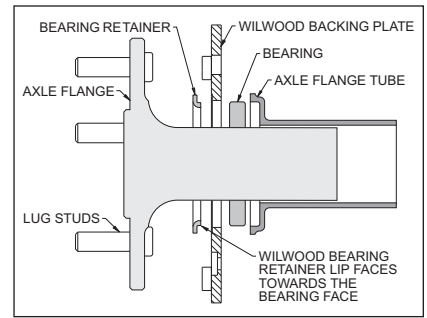

Figure 4. Retainer / Axle Diagram
Completely disassemble the stock brake system down to the bare axle utilizing a qualified machine shop to press off axle bearing and OEM retainer. Then have the machine shop install new retainer (2), supplied with bracket kit with the lip facing towards the bearing, reference Figure 4 (we suggest you install a new bearing at this time, not supplied in the kit). Degrease and remove any dings or burrs on the housing flange as well as the axle flange which may interfere with the brake assembly.